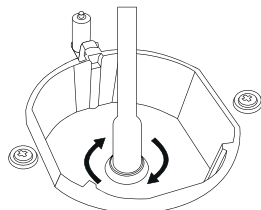

Figure 18
4. Remove injector by turning as shown in Figure 18 with screwdriver and replace it with a new one.